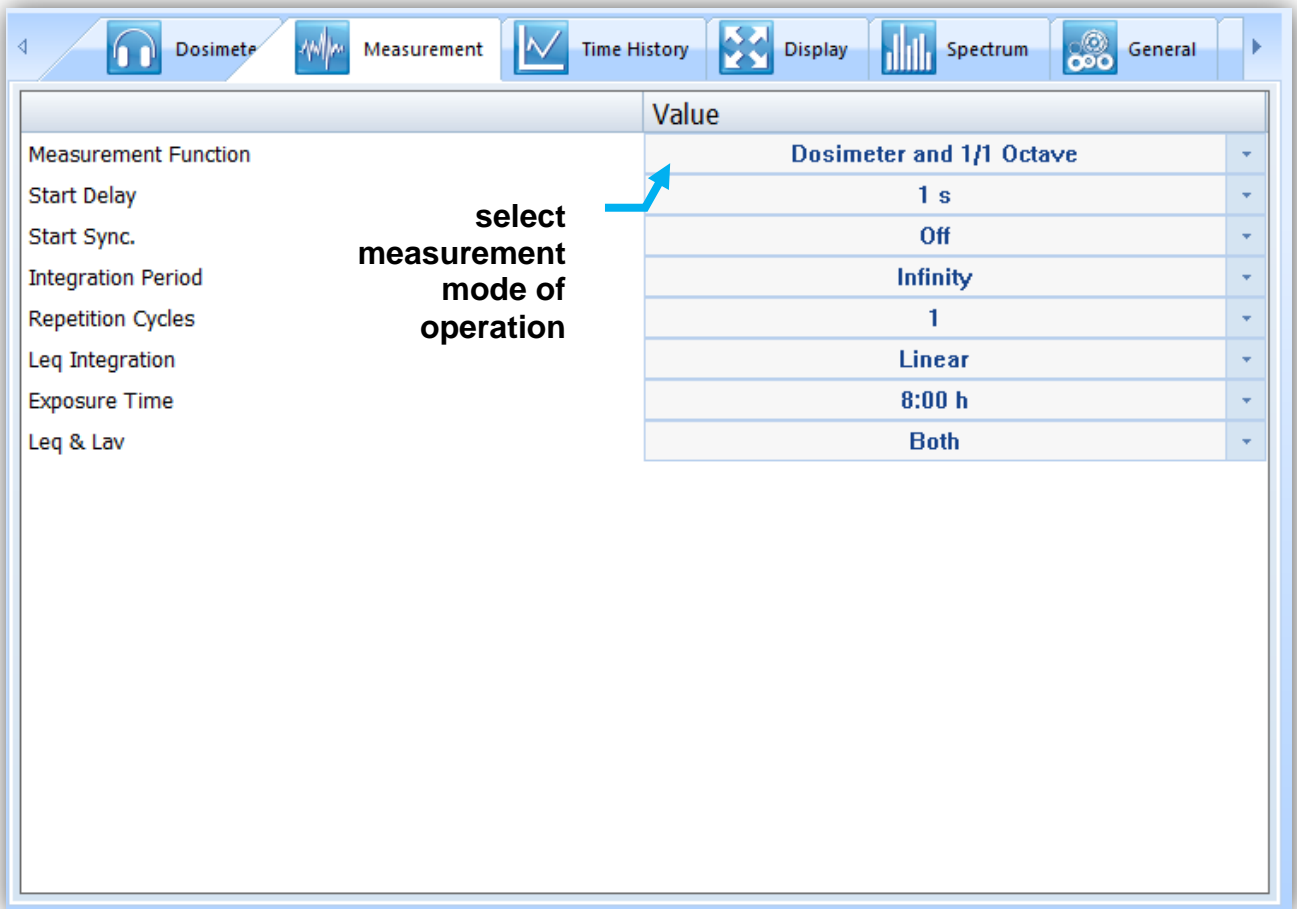

Figure 5-9 Measurement configuration settings tab
**Notice:** Summary results are saved on **“Integration Period”** basis (not on **“Logger Step”** time). See Figure 5-9 how to set **“Integration Period”** parameter.